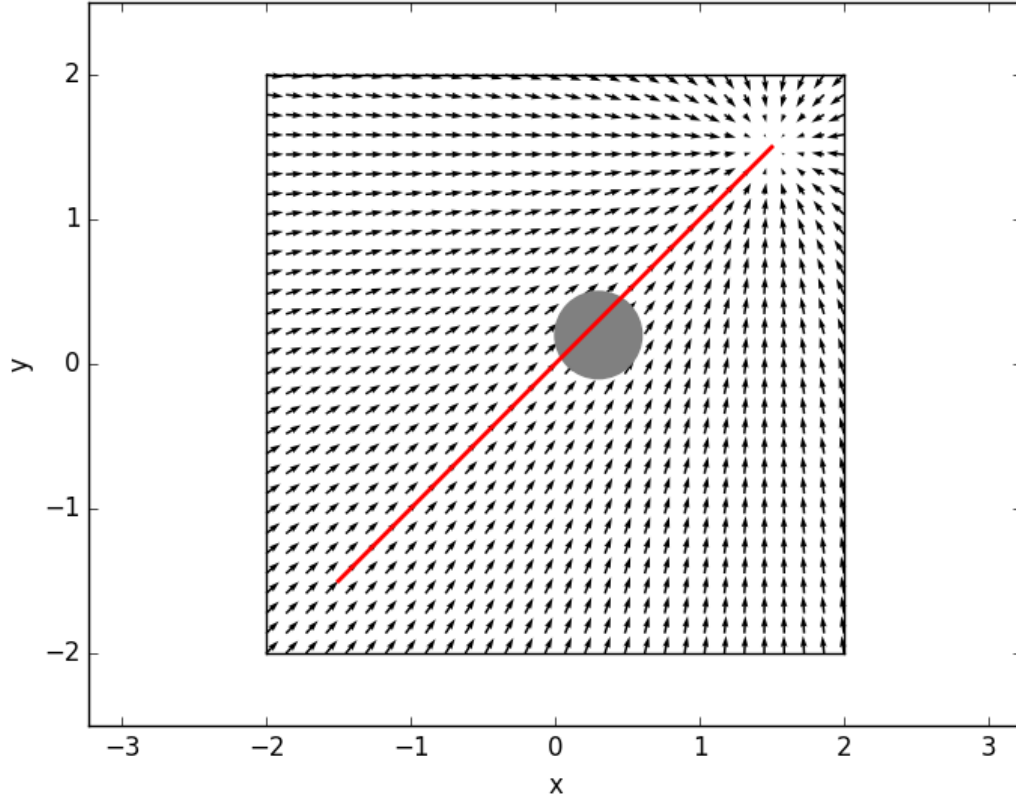

Figure 1: Potential field with the goal
- (a) The plot of the potential field for moving towards the goal can be seen in figure 1. This field is calculated by taking the vector from the position towards the goal, and squaring the magnitude of the vector while keeping the same direction. This ensures that the robot 'slows down' as it gets closer to the goal, and that it will always attempt to move towards the goal. The figure shows how all the vectors point towards the goal, and that vectors close to the goal have a smaller magnitude